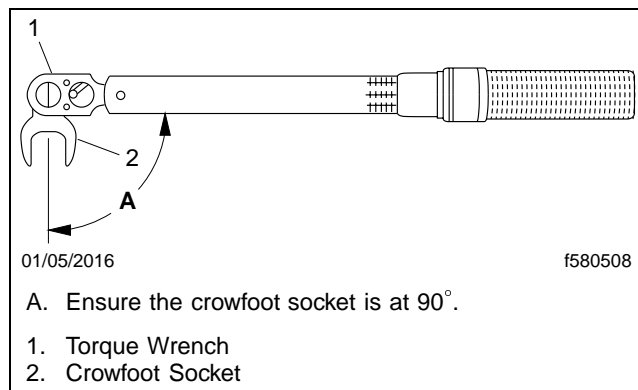
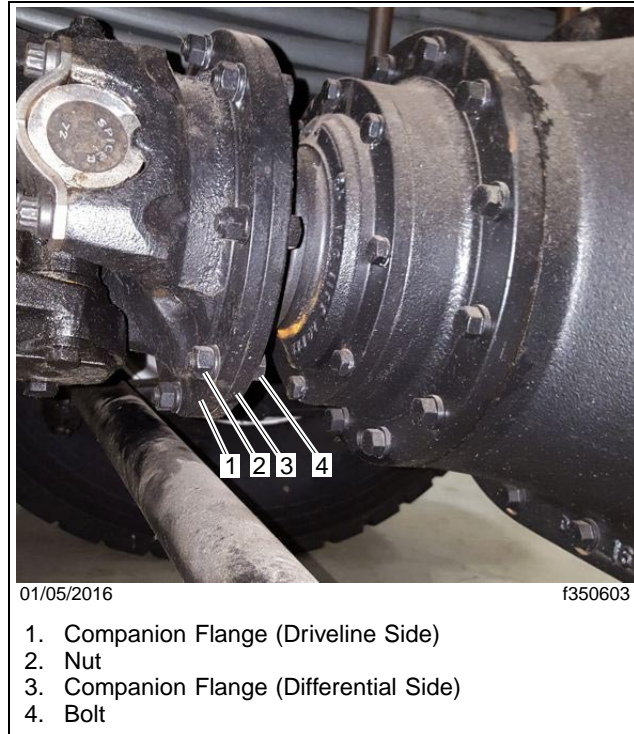

Fig. 1, Wrench Setup
Fig. 2, Fasteners at the Companion Flanges
4. For each of the eight sets of fasteners at the flange yoke joint, use a 9/16" combination wrench to hold the bolt and a calibrated torque wrench (equipped with a crowfoot or box-end socket) to torque the nut to 45 to 50 lbf-ft (60 to 68 N·m)]. See **Fig. 1** and **Fig. 2**.